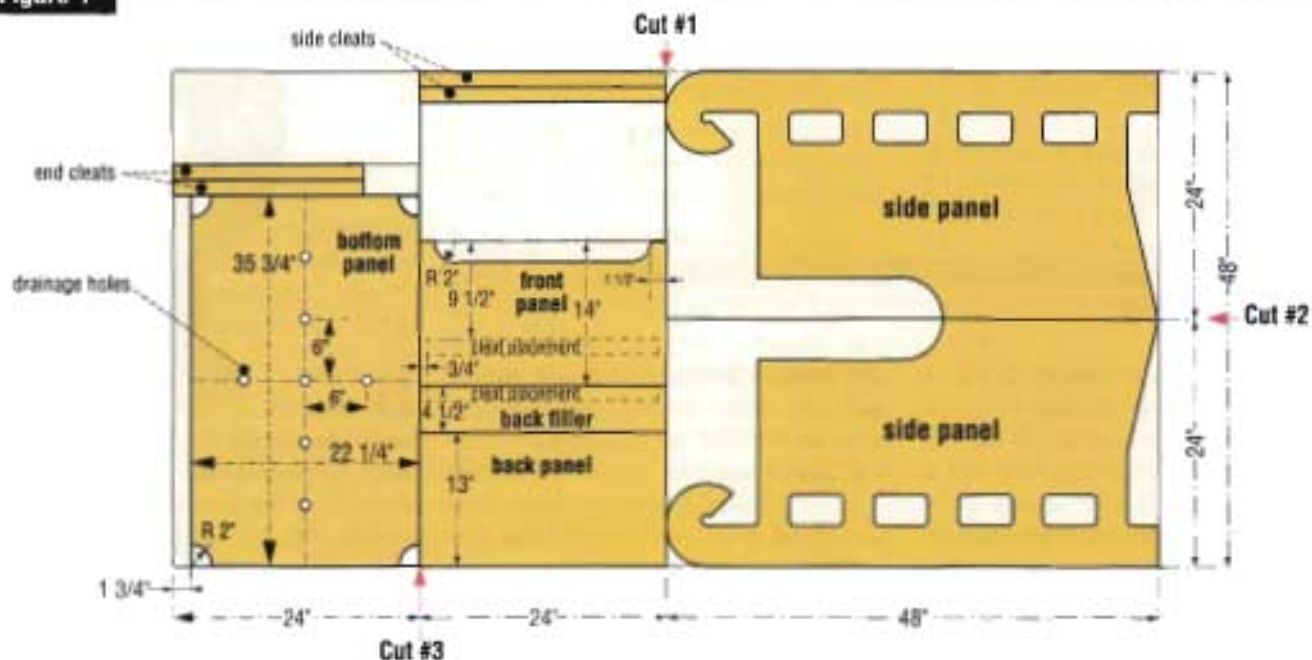

Figure 2
Step 2: Join the side panels (good sides facing) with a wood screw at each corner. Mark all cuts according to Figure 2 (mark the runner cutouts square at this point), using the compass to sketch the large curves. Attach additional screws inside the markings to hold the two pieces together as you cut.
Step 4: Using the same bit, drill holes in the side panels as shown in Figure 2. These holes will give your cuts curved corners and make the cuts easier to start. Using a jigsaw, make the cuts marked on the side panels.
Step 6: Using screws and glue, attach the side cleats to the rough faces of the side panels as shown in Figure 2. Attach end cleats to the front